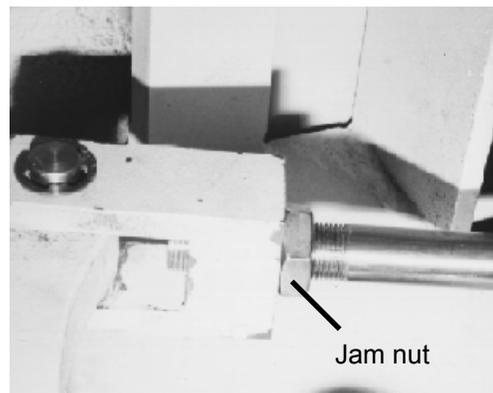

Figure 30
2. Loosen the jam nuts on each end of the clamp connecting rod, (Figure 30).